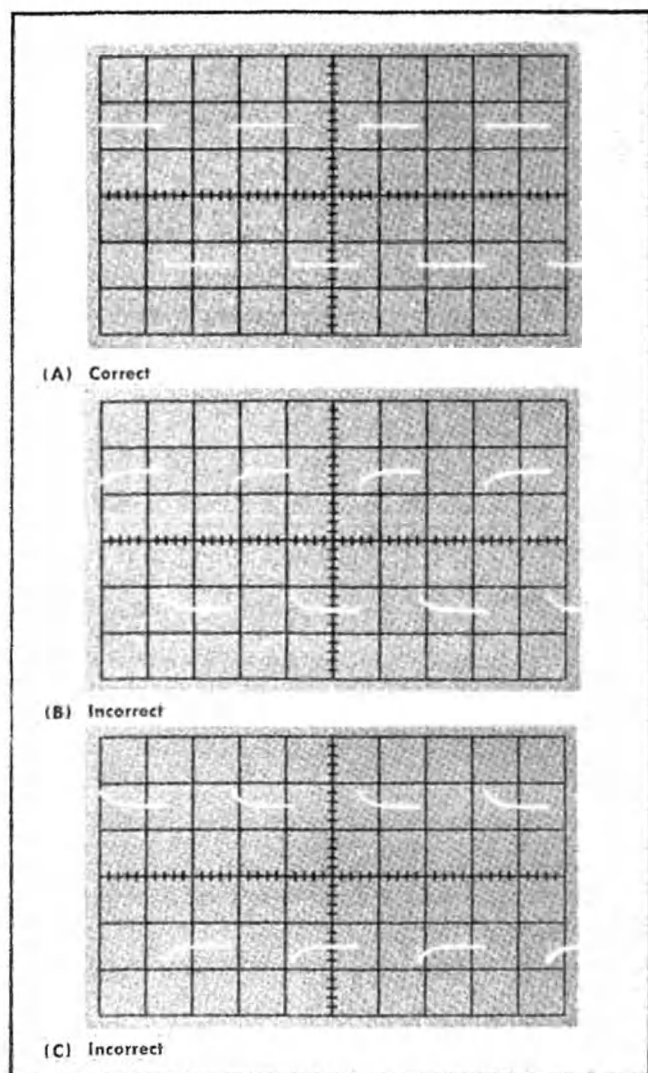

Fig. 2-10. Probe compensation.
d) Check the waveform presentation against Fig. 2-10(A). Waveform presentations resulting from incorrect adjustments are shown in Fig. 2-10(B) and (C).